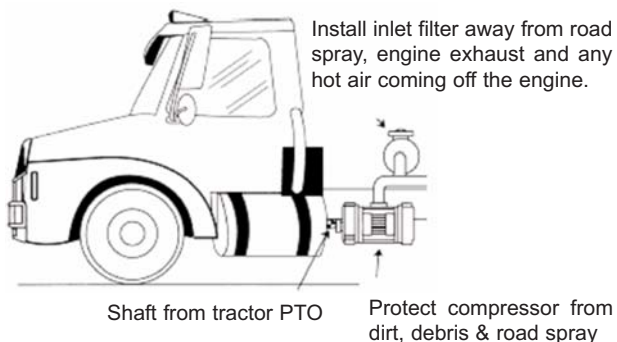

Figure 4
4. Mount the compressor in a position where it is protected from dirt, debris and road spray. The mounting location should allow for regular inspection, cleaning and maintenance. The inlet filter should be positioned to draw in clean, cool air, and should be mounted away from any engine heat and exhaust. See Figure 4.